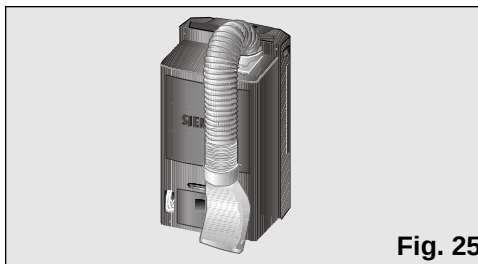

Fig. 25
- ☐ To do this, bend the tube towards the back of the appliance and secure it with the diffusion hook, **Figs. 25 and 26**.